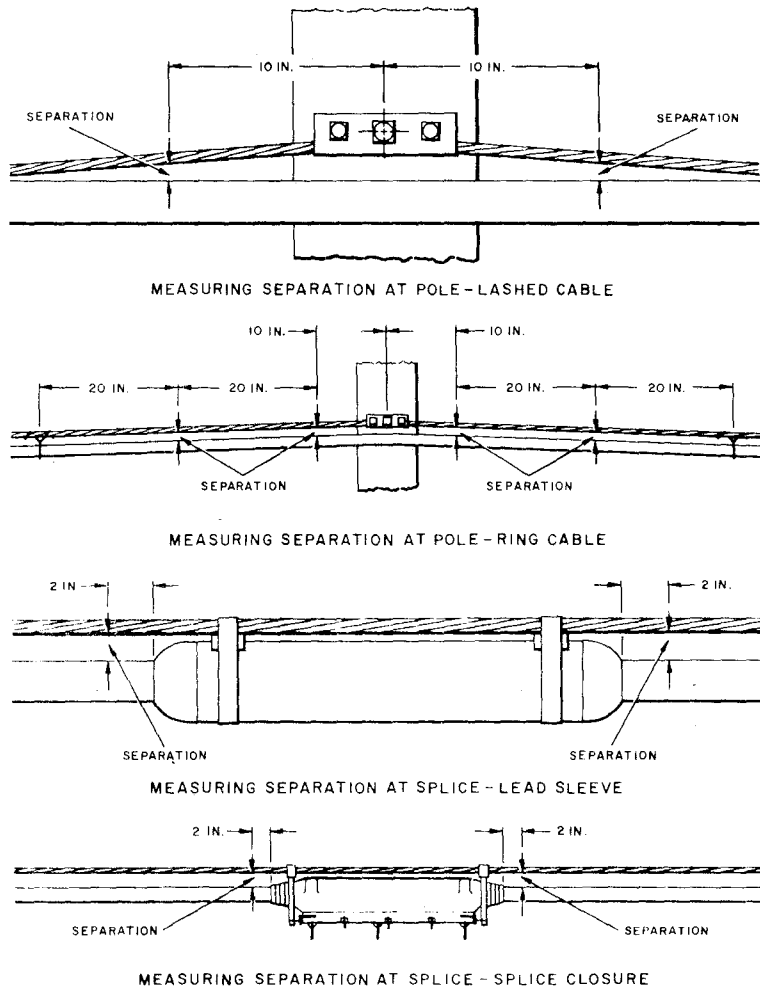

Fig. 5—Measuring Separation Between Strand and Cable Sheath
3.01 Lashed cable supports with cable spacers shall be used where it is necessary to support the cable and where the separation between the strand and the cable sheath is not more than 3-1/4 inches. Separation between the strand and cable sheath is measured as shown in Fig. 5.